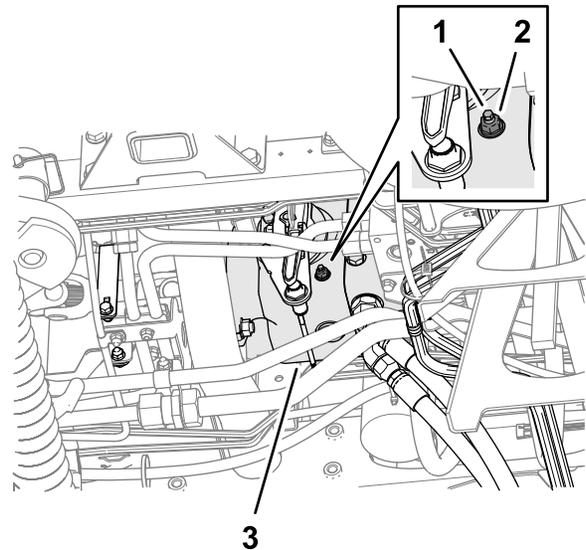

Figure 90
3. From the bottom of the machine and at the right side of the traction pump, loosen the locknut that secures the neutral return-adjustment screw (Figure 90).